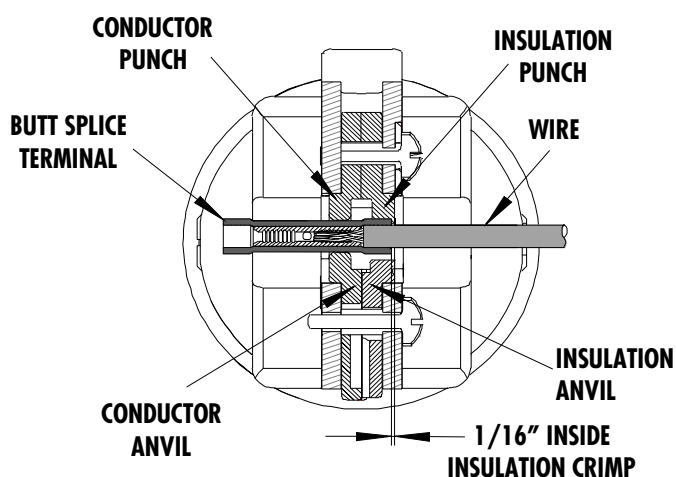

Figure 4
4. When crimping butt splices, or 3-way and 4-way terminals the locator must be removed. Splices must be visually aligned with the tooling 1/16" inside the insulation crimp (See Figure 4).